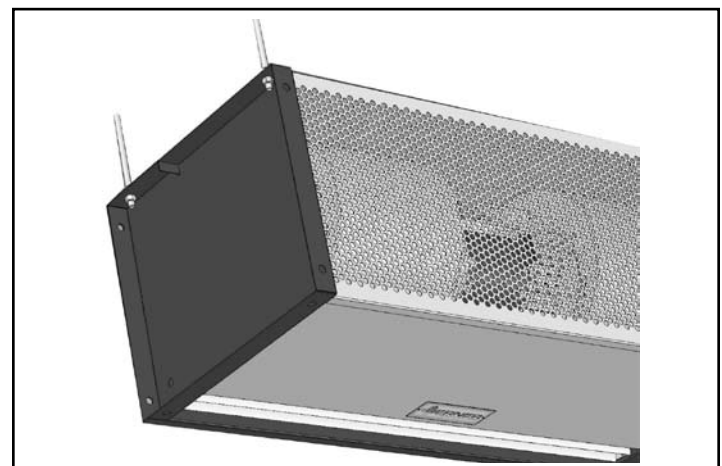
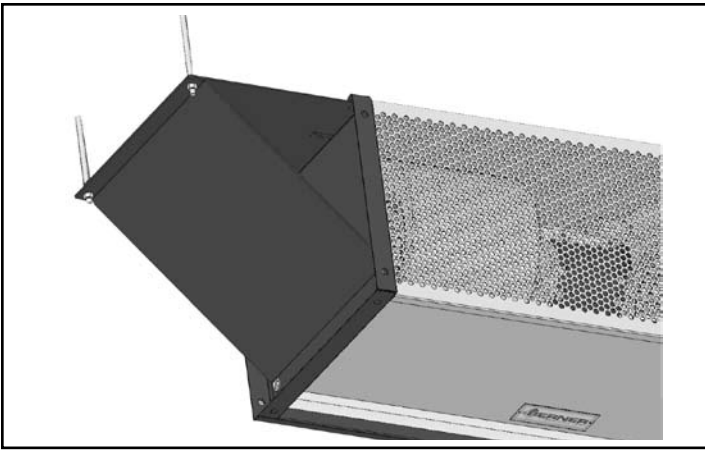

FIGURE 3 - Threaded Rod Suspension
FIGURE 4 - With Extension Brackets
B. The VSA/VSB series endplates are equipped with 1/2" holes for suspended mounting. The unit may be suspended using a minimum 3/8" suspension rod (**Figure 3**), or using 3/8" suspension rods and extension brackets (available from Berner). **See Figure 4**.